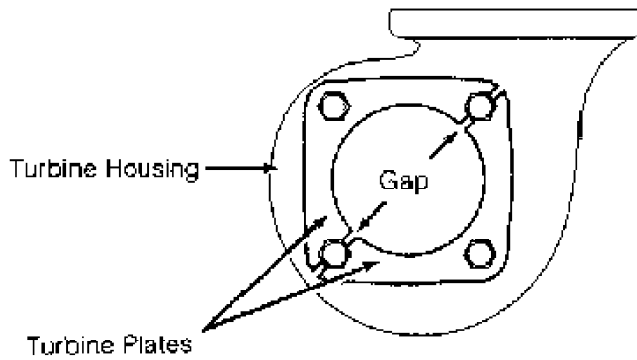

Fig. 34: Installing Turbine Plates to Prevent Heat Distortion
1) To reassemble, reverse disassembly procedure. To prevent heat distortion, install turbine plates as illustrated. See Fig. 34. Install compressor plates with rounded edge toward compressor housing.